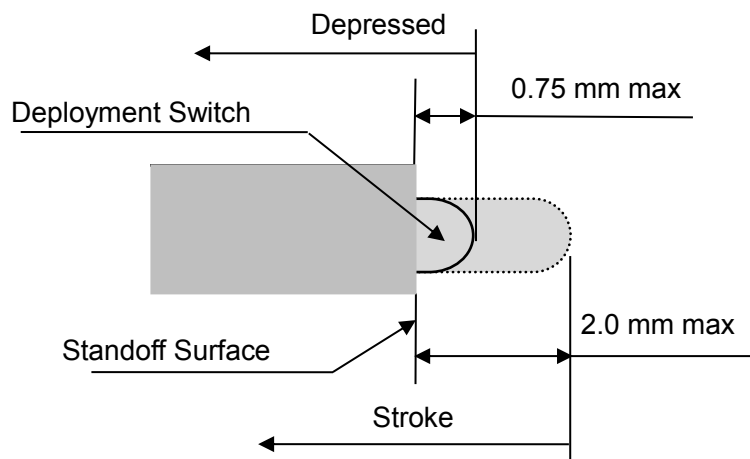

Figure C3-7 Maximum Distance and Stroke of Deployment Switch
- (2) CubeSats need to remain inactive while any one of the deployment switches is kept depressed to a maximum distance of 0.75 mm from the standoff surface as shown in Figure C3-7.
- (3) Battery charging, if needed, shall be conducted with all deployment switches being depressed.
- (4) The stroke of a deployment switch shall be 2.0 mm or less from the standoff surface as shown in Figure C3-7.
- (5) The force generated by each deployment switch shall be no greater than 3 N.